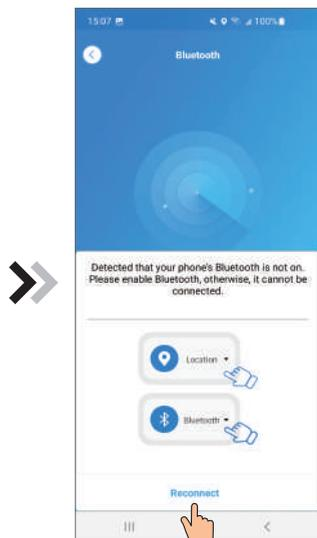
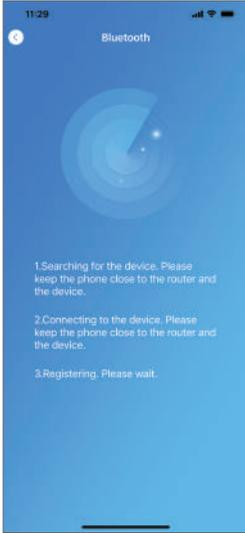

Fig.26 Reconnect interface
Fig.27 Searching device interface
6. Click "Reconnect" (Fig.26) directly jump to searching device interface(Fig. 27);